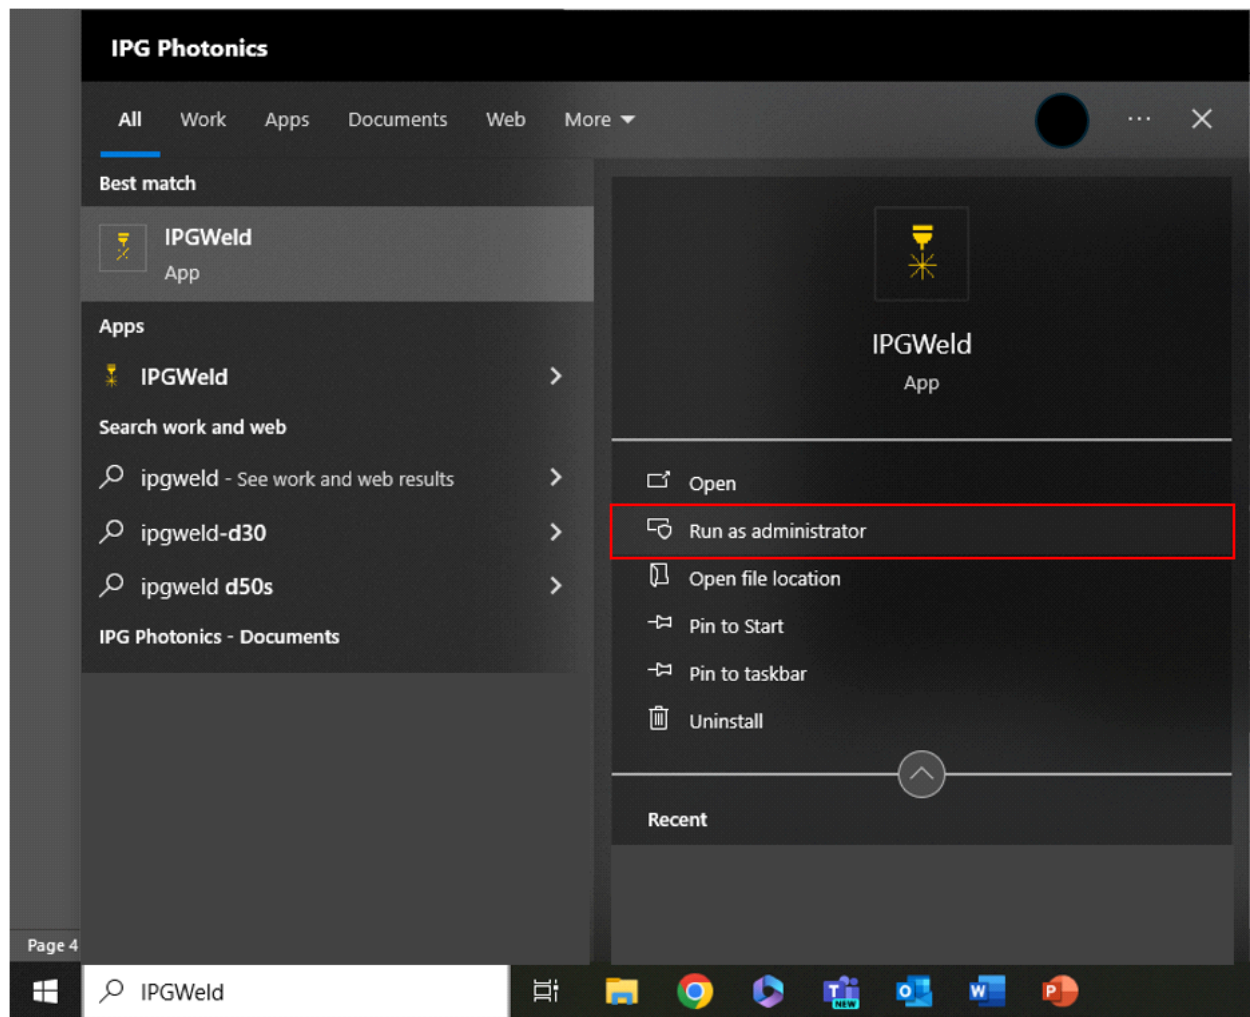

Figure 380: Launch IPGWeld as a Windows Administrator
1. Launch IPGWeld as a Windows Administrator, as seen in Figure 380 (below).